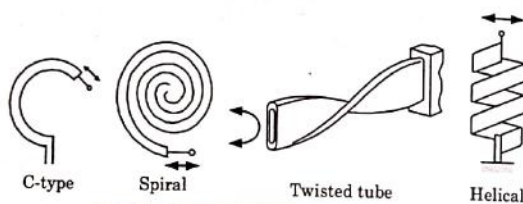

Fig. 5.21.1. Pressure sensitive primary devices.
2. The bourdon tubes are made out of an elliptically flattened tube bent in such a way as to produce the shapes shown in Fig. 5.21.1.